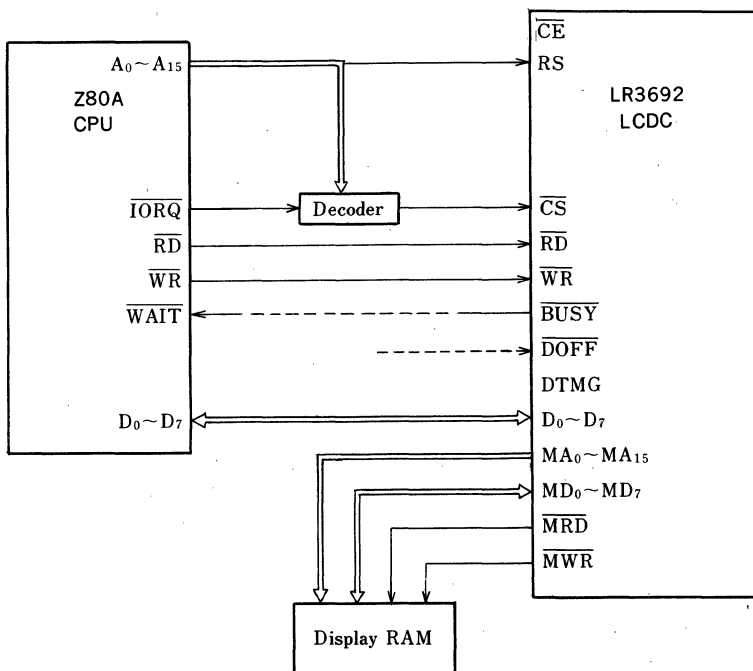

Fig. 1 Interface with CPU(I/O mode)
As shown in Figs. 1 and 2, the LR3692 (LCDC) is connected to the standard bus of the Z80-type CPU, using it as a means of transferring data and commands.
① I/O mode A sample system configuration for I/O mode access is shown in Fig. 1. A value for 0CH is first set into the command register. If the BUSY is high, CS is low, and RS is low, the RD, WR, and D0-D7 lines are linked to the MRD, MWR, and MD0-MD7 lines, respectively. At this time the value of the Cursor Address register is output at the MA0-MA15 pins. The Cursor Address register is incremented at the rising edge of the RD or WR signal. The BUSY line is set to high during the fly-back period in which the LCDC does not access the display RAM. Setting the DOFF to low causes the BUSY to be set to high, making the display RAM accessible at any timing. At this time, the LCD display is turned off.